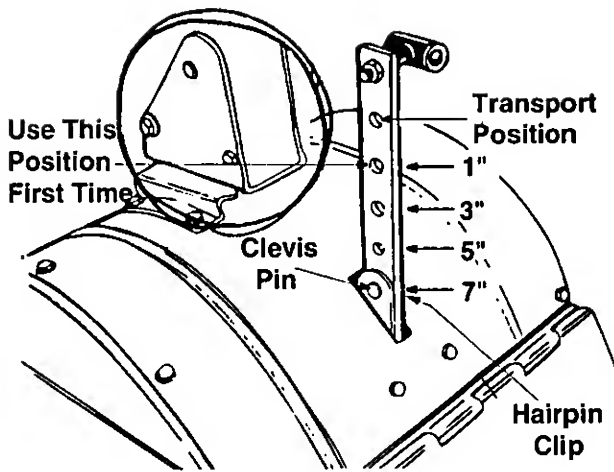
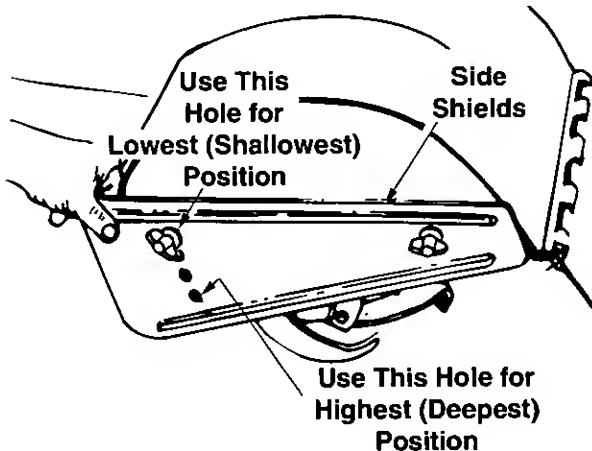

Figure 9
Figure 10
**WARNING:** When operating the tiller for the first time, use the depth stake setting that gives 1 inch of tilling depth (second hole from the top). See Figure 9.
Tilling depth is controlled by the depth stake which can be adjusted to five different settings. See Figure 9. Adjust the side shields as shown in Figure 10, as you adjust the depth stake. Be certain spark plug wire is disconnected and grounded against the engine.
1. When using the tiller for the first time, use the second adjustment hole from the top (1" of tilling depth). See Figure 9.
5. To adjust the depth stake, remove the clevis pin and hairpin clip. See Figure 9. Move the depth stake to the desired setting.
6. To adjust the side shields, remove the wing nuts. See Figure 10. Place side shield in position desired. Replace wing nuts and tighten securely.